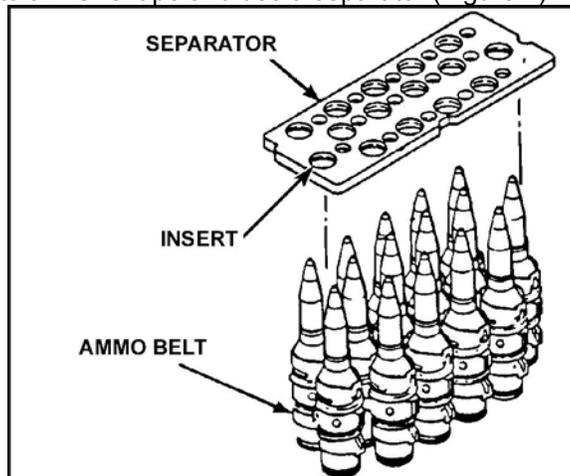

Figure 2. Separator.
a. Form each belt into an "S" shape and use a separator (Figure 2).